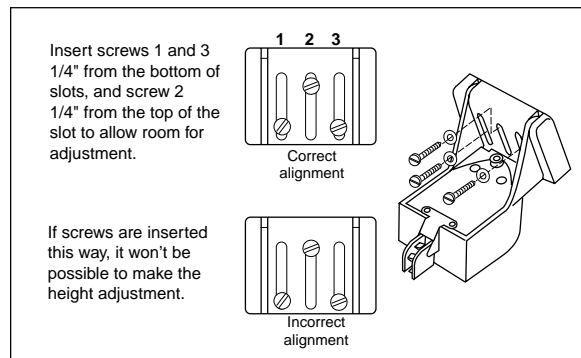

Fig. 2-6
5. Remove the bracket. See Fig. 2-6. The screws in the outer slots should be placed about 1/4" (6 mm) up from the bottom of each slot. The screw in the center slot should be placed 1/4" (6 mm) down from the top. (This will allow you to adjust the bracket up or down a bit.) Drill pilot holes 3/4" (19.1 mm) deep. Use a 9/64" (3.6 mm) drill bit. To prevent drilling too deeply, wrap masking tape around the drill bit about 7/8" (22 mm) from the tip. Drill in only as far as the tape marker.